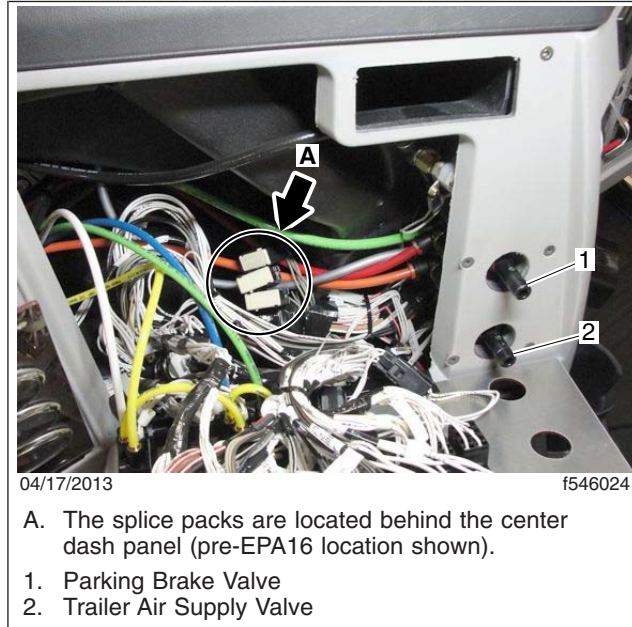

Fig. 1, Western Star Dash Assembly
- 2.3 Access the ground and ignition splice packs, located behind the center dash panel. See Fig. 1.